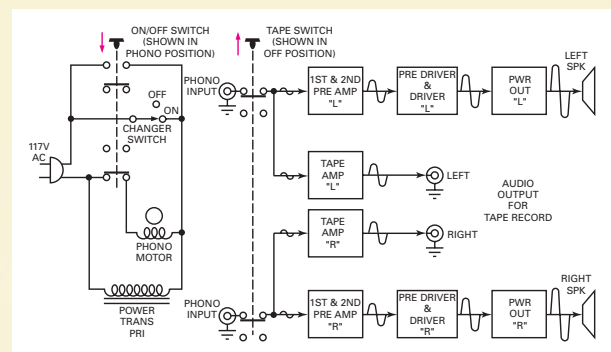

Figure 20-17
4. Prepare a complete single-line diagram for the AM-FM stereo unit as in **Figure 20-17**. Estimate sizes and draw twice the size. Use a template if you are using board drafting techniques, or use a symbol library for a CAD drawing.